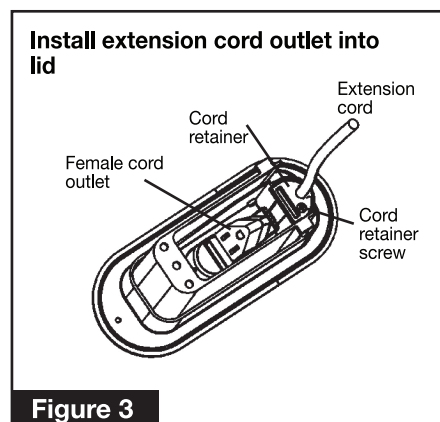

Figure 3
5. Pull the extension cord end up through the new cut opening and attach the female (outlet) end of your outdoor extension cord to the underside of the deck grommet lid using the included cord retainer and retainer screw (Figure 3).